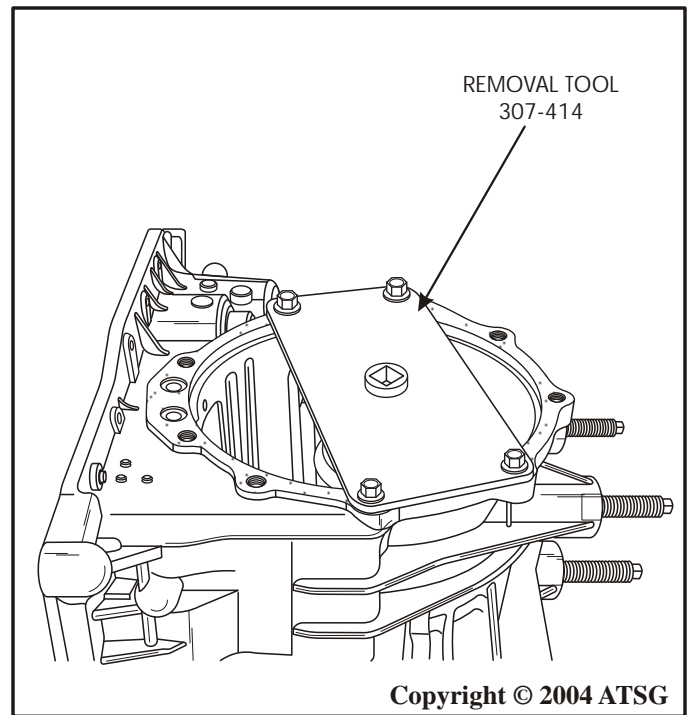

Figure 111
4. Rotate the transaxle 180 degrees so that end cover side is facing up (See Figure 111).
5. Install the final drive input nut socket 307-414 and wrenching plate, as shown in Figure 111.